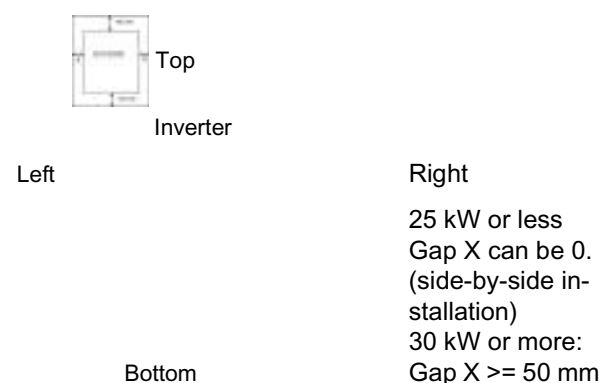

Figure 2-2-1
- As heat is generated during inverter operation, the spaces shown in Fig. 2-2-1 are required to ensure sufficient cooling. As heat radiates upward, do not install the product beneath a device sensitive to heat.